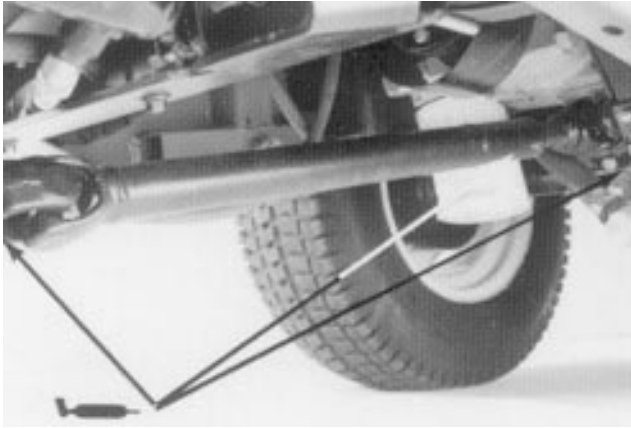
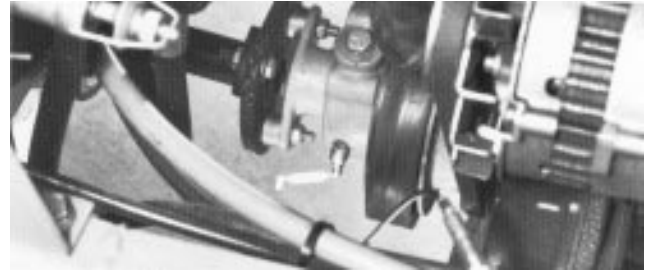

Figure 41
Figure 42
1. The traction unit bearings and bushings that must be lubricated are: PTO shaft and yokes (Fig. 36); lift arm pivots (Fig. 36); right and left push arm ball joints (Fig. 36); push arm pivot bushings (Fig. 37); PTO pivot housing blocks (Fig. 38); brake pivot bushings (Fig. 39); axle tie rod (2) (Fig. 40); axle pivot pin (Fig. 40); axle steering pivots (2) (Fig. 40); cylinder rod ends (4) (Fig. 40) drive shaft (3) (Fig. 41); clutch housing (Fig. 41) and engine output shaft bearing (Fig. 42). Also apply grease to both brake cables at the drive wheel and brake pedal ends.